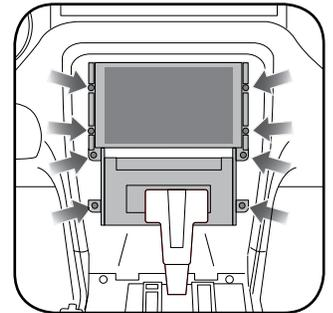

Fig. 1.4
3. Remove (8) 7mm screws securing the screen and radio chassis, then unclip and remove them. (Fig. 1.4) Remove the mounting brackets from the screen and radio chassis.